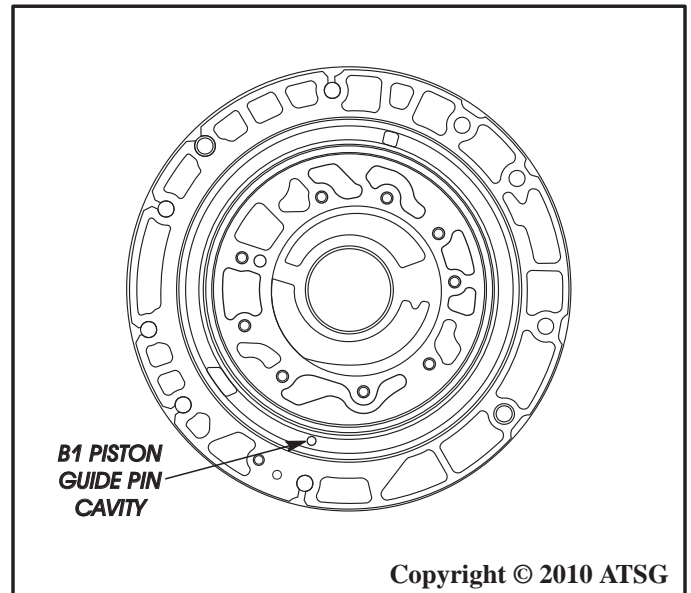

Figure 162
*Note: B1 clutch piston has a guide pin cast on bottom of piston, that fits into the cavity that is shown in Figure 162, to properly align the piston for the return spring.*